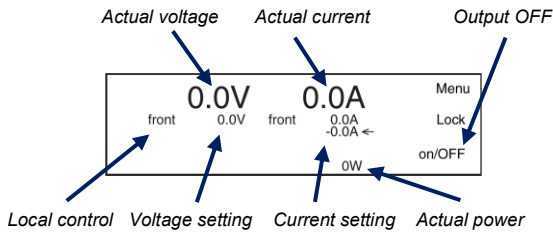

Figure 5.3: Actual output values and settings
- The first line in the front display indicates the actual output voltage and current. The second line shows the settings of the controls, see Figure 5.3.
- By default, a unit is in local operation, see Figure 5.3.